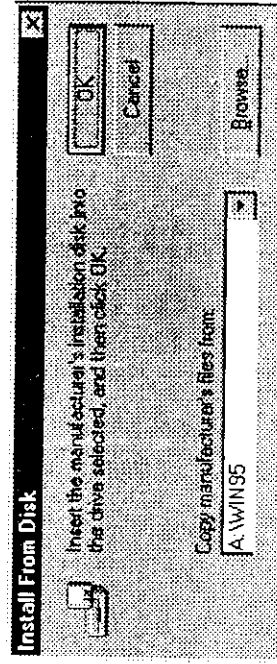

Figure 3-6.
7. Once in this directory, the file TRIDENT.INF will appear under file name list. SELECT "OK" to return to the "Install From Disk" window (see Figure 3-6). Under the statement "Copy manufacturer's files from", the line X:\WIN95 should appear. SELECT "OK" to start installing the driver files from the diskette drive.